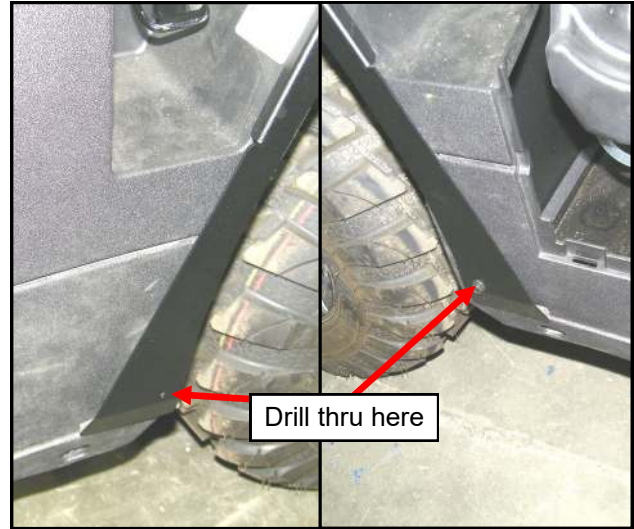

Fig. 14.1 C-pillar lower bolt
14.1 Ensure the cargo bed is still in the raised and locked position, and remove the battery cover at the passenger's side seat base. Per figure 14.1, drill a 9/32" hole through the lower hole in the C-pillar and through the plastic panel underneath. Secure the C-pillar to the plastic panel with a 1/4-20 bolt outside, and steel washer and nut inside the plastic panel and tighten snug.